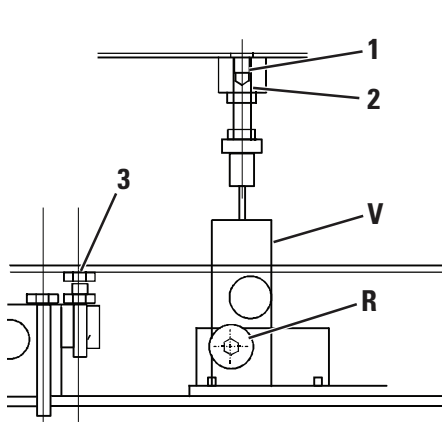

Fig. 14
The lift features an automatic alignment valve under platform P2 (Fig. 14 Part V). Ensure the pusher is in place on the bottom of platform P2, directly above the alignment valve. This valve must be adjusted if the platform leveling bolts (3) are adjusted. To adjust the platform leveling bolts (3) fully loosen locknut (2) and screw (1). After adjusting the height of the platform, tighten screw (1) until the platform begins to elevate, then unscrew by one turn and secure with the locknut (2).